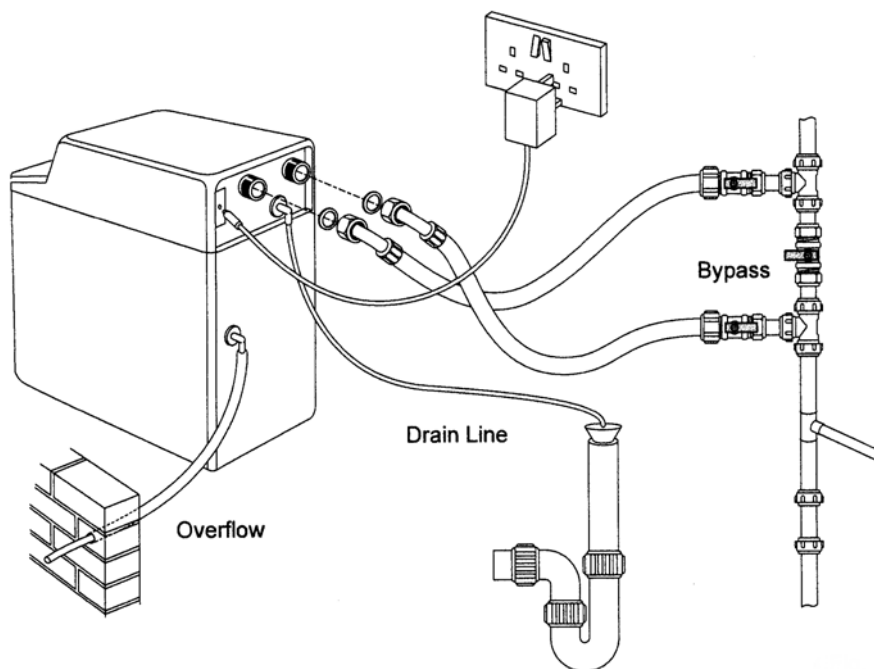

Figure 3: Typical Installation
- A bypass loop should be installed on all Laser softeners. The bypass valve isolates the Water Softener from the water system and provides un-softened water to the water system during routine maintenance and servicing procedures. See figure 3..